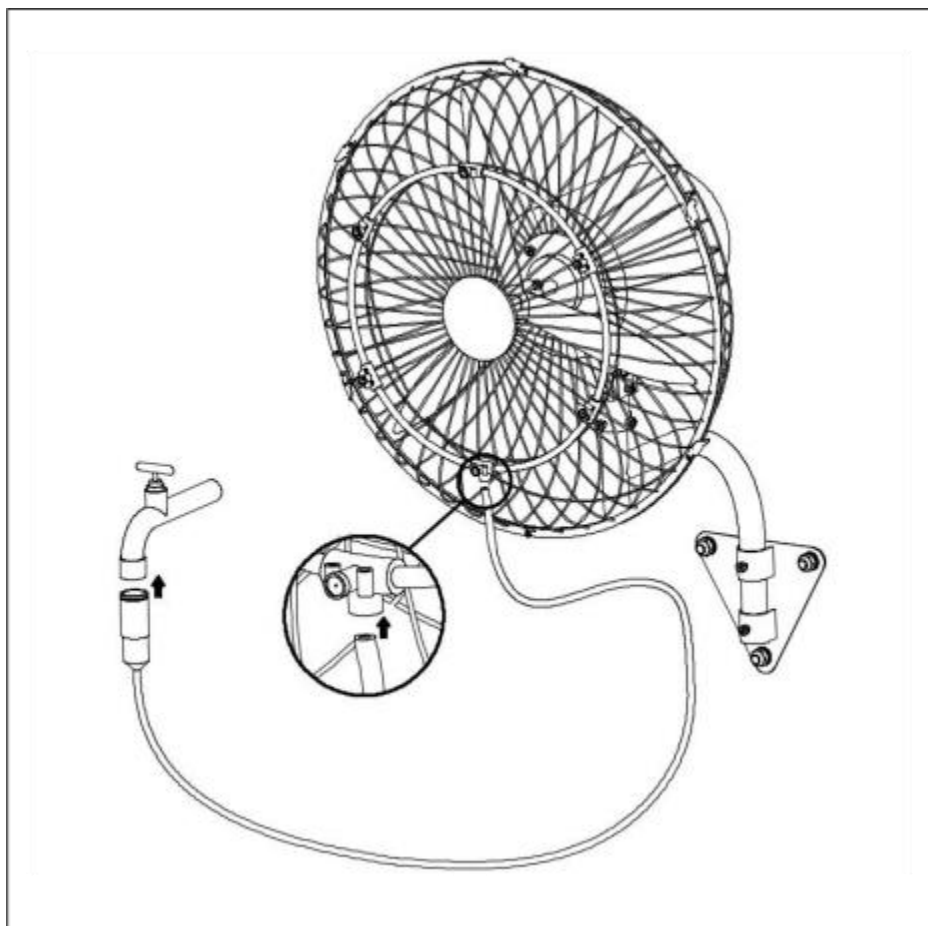

Fig.11.
2). Connect the water pipe to the faucet and the spray nozzle respectively, and tighten the faucet. See the (Fig.11.) Done!